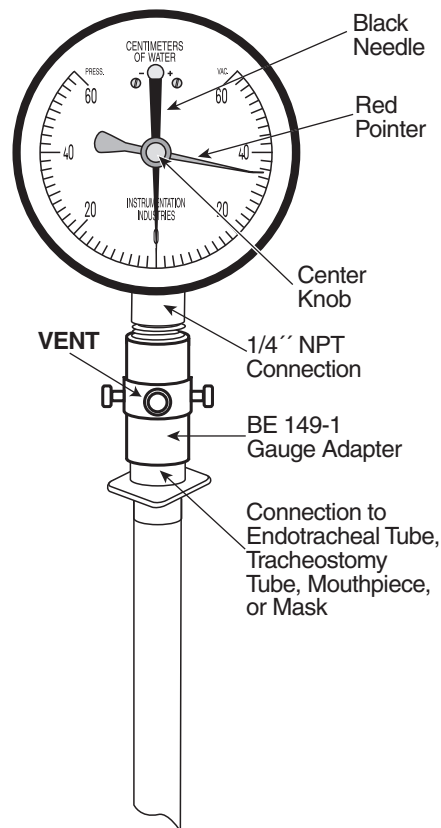
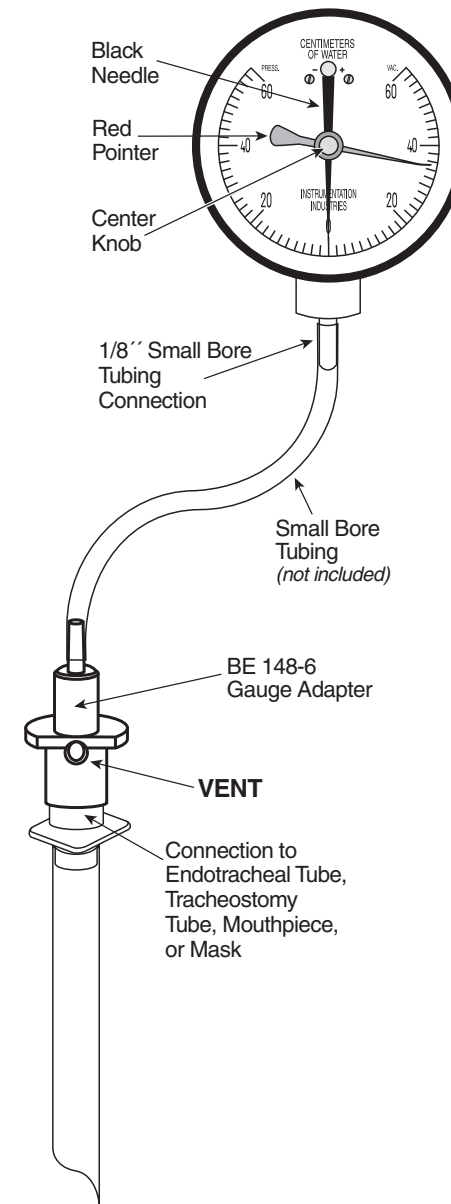

Figure 4
Figure 6
4. Connect the attached adapter to endotracheal tube, tracheostomy tube, mouthpiece, or mask. (see Figure 4 or 5, in panel E or Figure 6 in panel F for instructions)